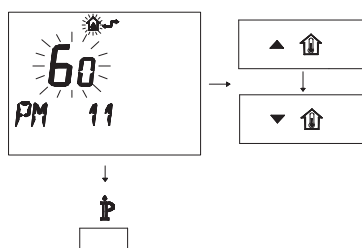

Fig. 8.21
- To modify the programmed SET, act on buttons **▲** **⬆** or **▼** **⬆** and wait for the programmed number to flash (Fig. 8.21). Each step increased or decreased corresponds to 1 second.